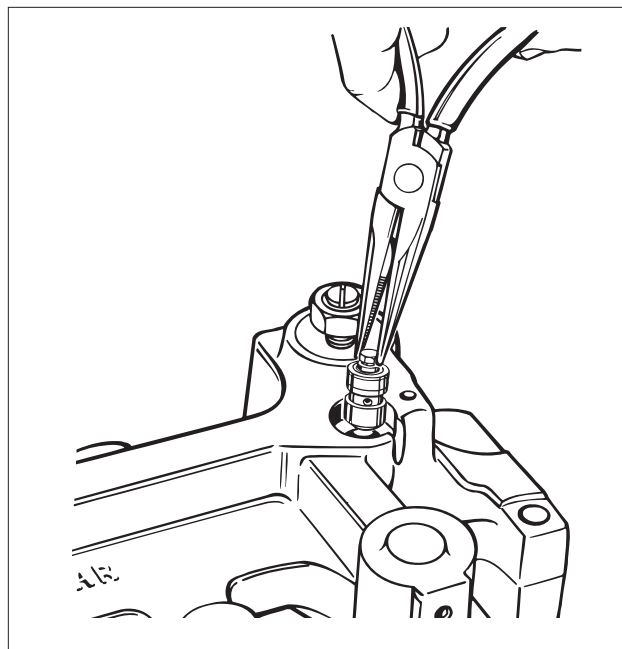

FIG. 19
3. Using needle-nose pliers or a magnet, remove the control valve (see Fig. 19).